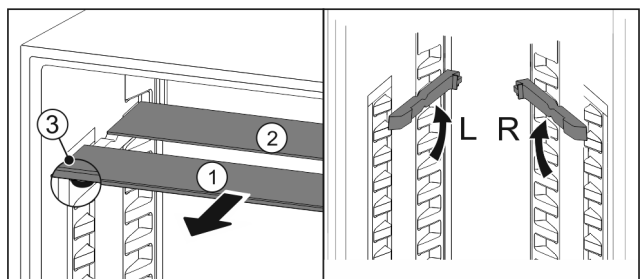

Fig. 125
- ▶ Pull the glass panels out Fig. 125 (1) from the front, one at a time.
- ▷ The glass panel *Fig. 125 (1)* and trim strip are at the front.
- ▷ The stops *Fig. 125 (3)* point down.